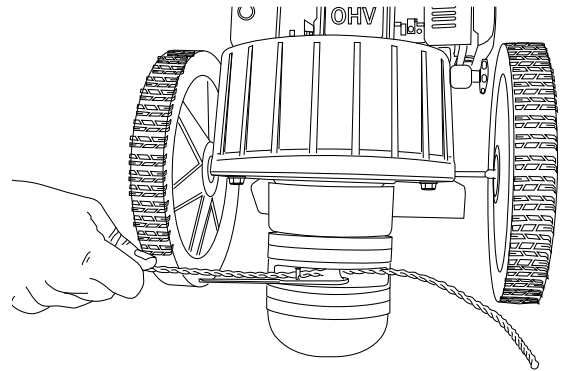

Figure 2
1. Insert the end of the cord into the side openings in the line plate (Figure 2).